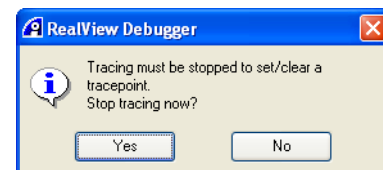

Figure 2-6 Prompt displayed on a running target (tracepoints)
- When setting or clearing tracepoints, RealView Debugger displays the Prompt dialog box shown in Figure 2-6.